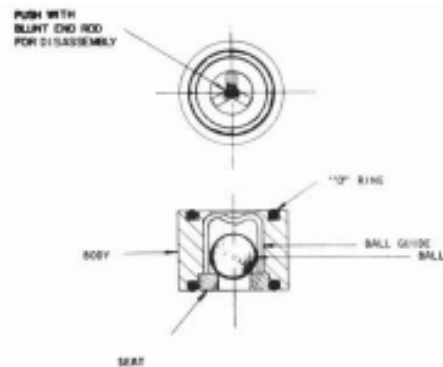

Fig. 9 - Check Valve Assembly Model 1730 and Model 1740 Units
***Ball Type Check Valves (Refer to Fig. 9)**